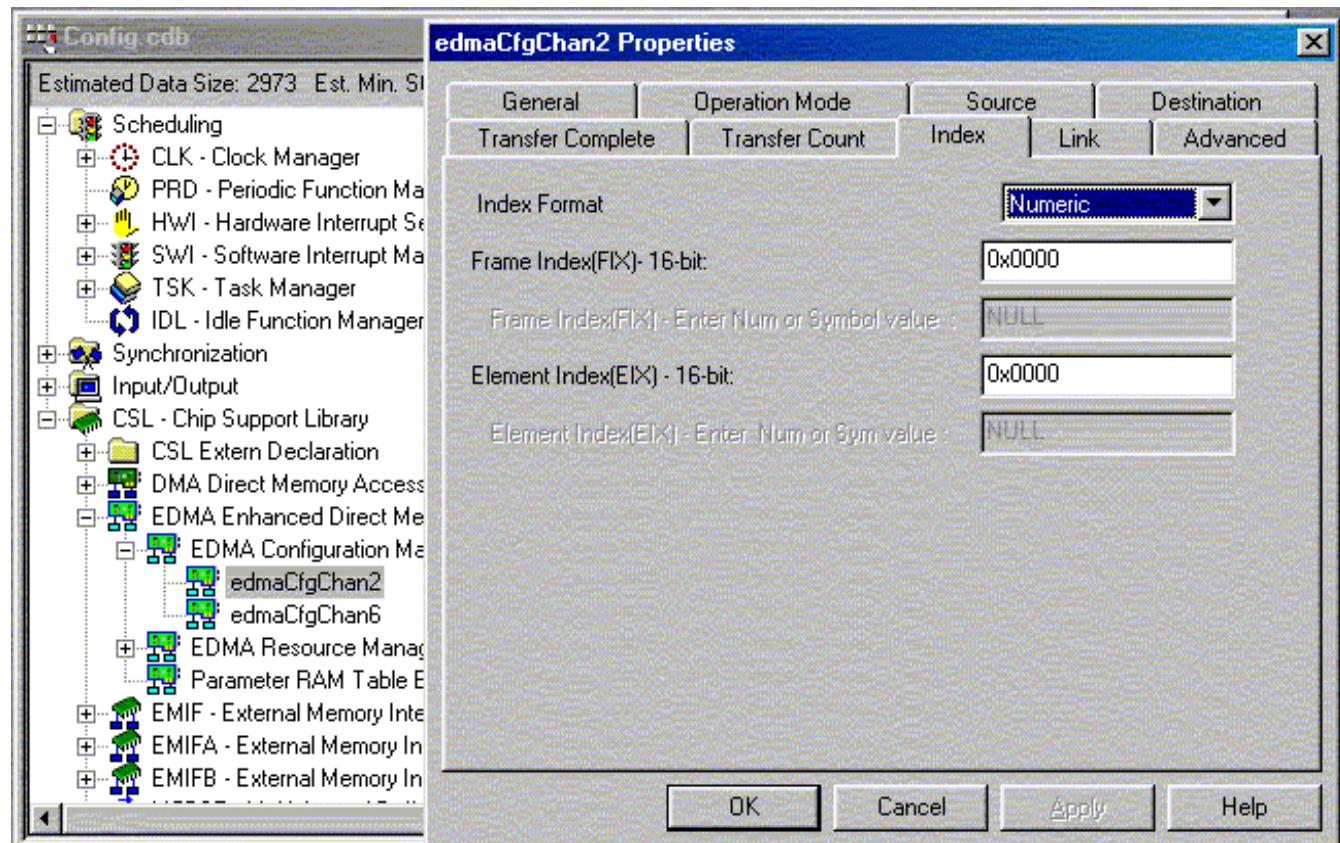
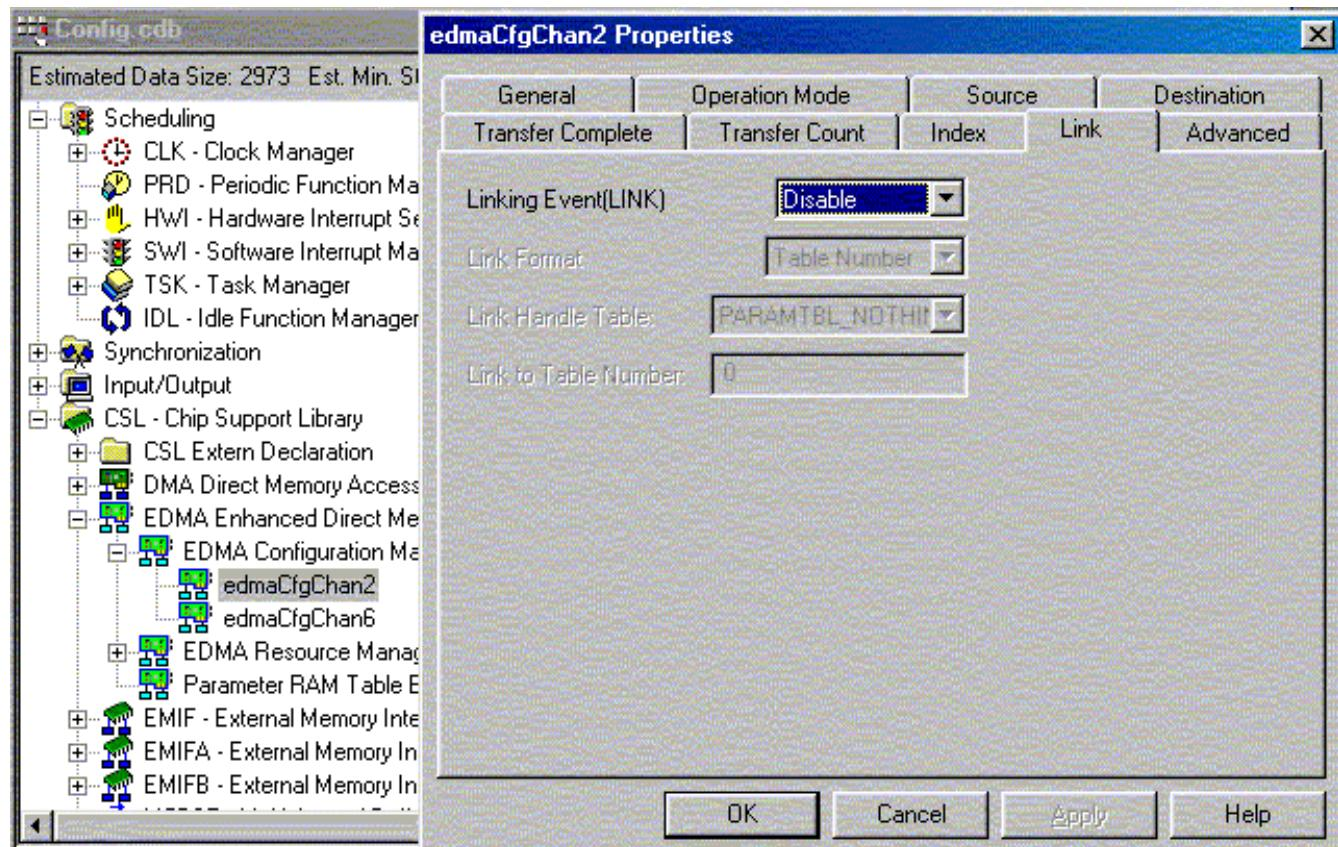

Figure 8. EDMA Chan2 Transfer Index Tab Options
Figure 9. EDMA Chan2 Link Tab
7. In the Index and Link tabs, choose options shown in Figure 8 and Figure 9.